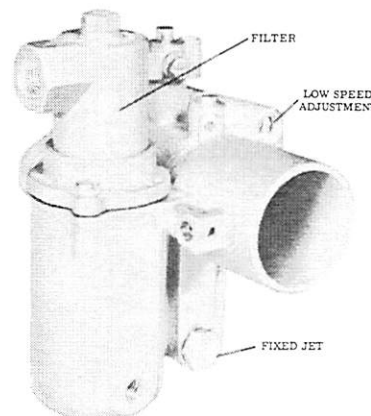

Figure 11. Idle Adjustment Screw
5. With engine running at idling speed while in forward gear, turn low speed mixture adjusting needle counterclockwise until affected cylinders start to "load up" or fire unevenly due to over-rich mixture. (Figure 11)